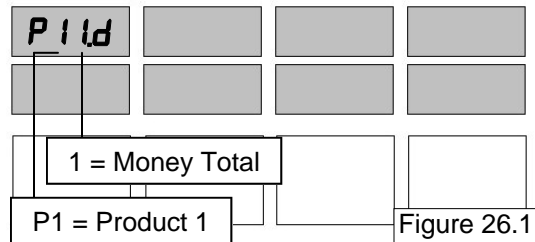

Figure 26.1
1. After the Manager's Mode has been accessed, press the number 2 and 6, then the **MODE** button on the keypad. The main sales display appears similar to Figure 26.1.
The main display shows the total money amount. For example: If the total money amount for the dispenser is \$7,890,123.45, the display appears as in Figure 26.1.